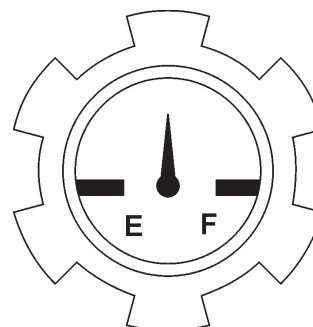

Figure 8. Fuel Cap Gauge
1. Check the fuel gauge built into the fuel tank cap (Figure 8) to determine if the pump's engine fuel is low. Refuel as needed.